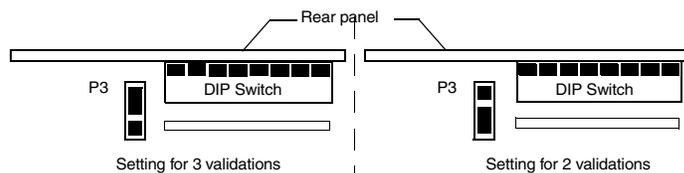

FIG. 2 RF validation jumper settings
2. Position the P3 RF validation jumper to select the number of valid RF data repetitions to be accepted, as shown in FIG. 2: